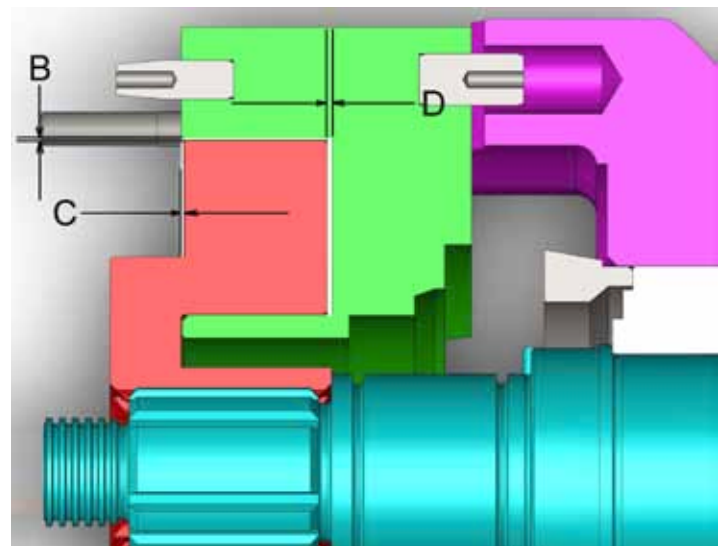

Figure 62 – Rotor to Body Clearances
8. Check all clearances: rotor to body, dimension "B", rotor to front face, dimension "C", and rotor to backface, dimension "D". If the clearance is not accurate, disassemble the pump and adjust the shims to achieve the correct clearance, Figure 62.